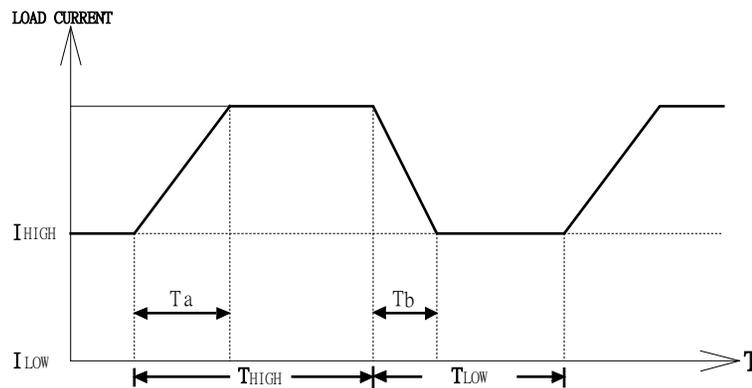

Fig 5-4 Dynamic load current with independent programmed Rise/Fall slew rate
I. Built-in Pulse generator: (Fig 5-4)
ii. Analog programming input: (Fig 5-4)